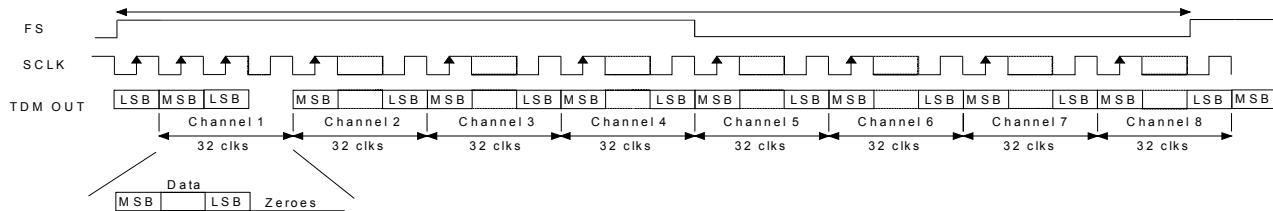

Figure 12. TDM Format
In TDM Mode, all eight channels of audio data are serially clocked out during a single Frame Sync (FS) cycle, as shown in Figure 12. The rising edge of FS signifies the start of a new TDM frame cycle. Each channel slot occupies 32 SCLK cycles, with the data left justified and with MSB first. TDM output data should be latched on the rising edge of SCLK within time specified under "Serial Audio Interface - TDM Timing" section on page 16. The TDM data output port resides on the SDOUT1 pin. The TDM output pin is complimentary TDM data. All SDOUT pins will remain active during TDM Mode. Refer to Section 4.11 "Optimizing Performance in TDM Mode" on page 29 for critical system design information.